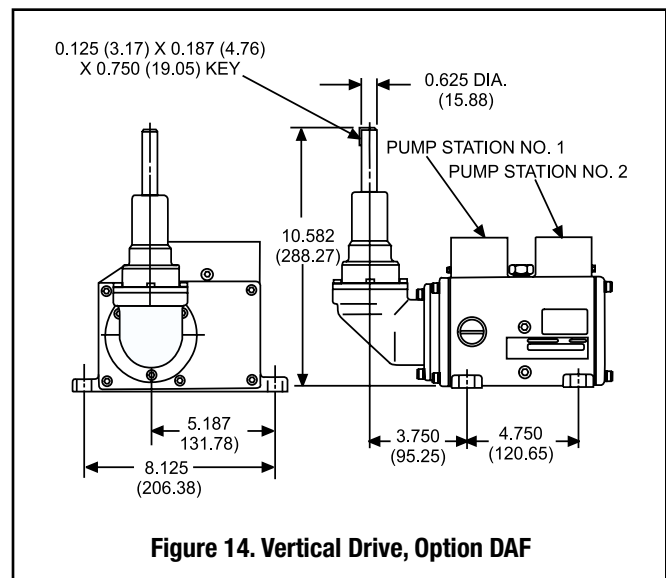

Figure 14. Vertical Drive, Option DAF
**Vertical Drive.** A bevel gear arrangement allows the drive-shaft to extend in the vertical direction. The shaft is long enough to allow clearance for connections to the pump. Figure 14 illustrates the vertical drive, option DAF.